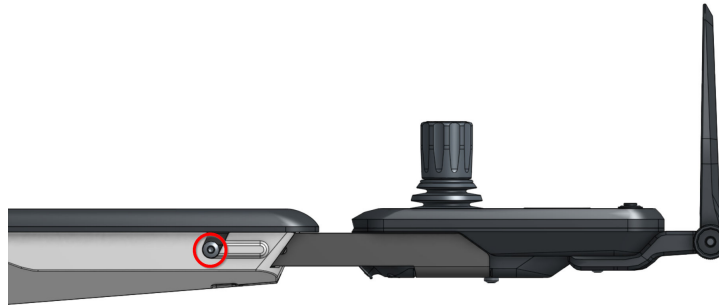

Figure 15. Screws to be loosened to adjust the position of the control panel (loosen on both sides)
1. Loosen the two screws (Figure 15, "Screws to be loosened to adjust the position of the control panel (loosen on both sides)" [23]).